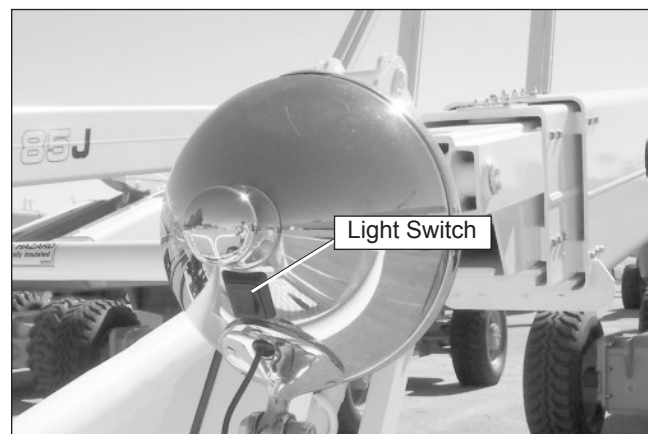

Figure 4.9 – Platform Work Lights
- The platform work lights are located on the top rail of the platform, one on each side of the upper control panel (refer to Figure 4.9).